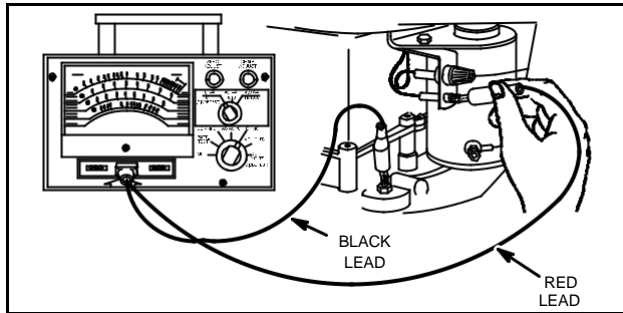

Fig. 764 – TESTING AC OUTPUT
5. Attach RED test lead clip to AC output terminal, Fig. 764.